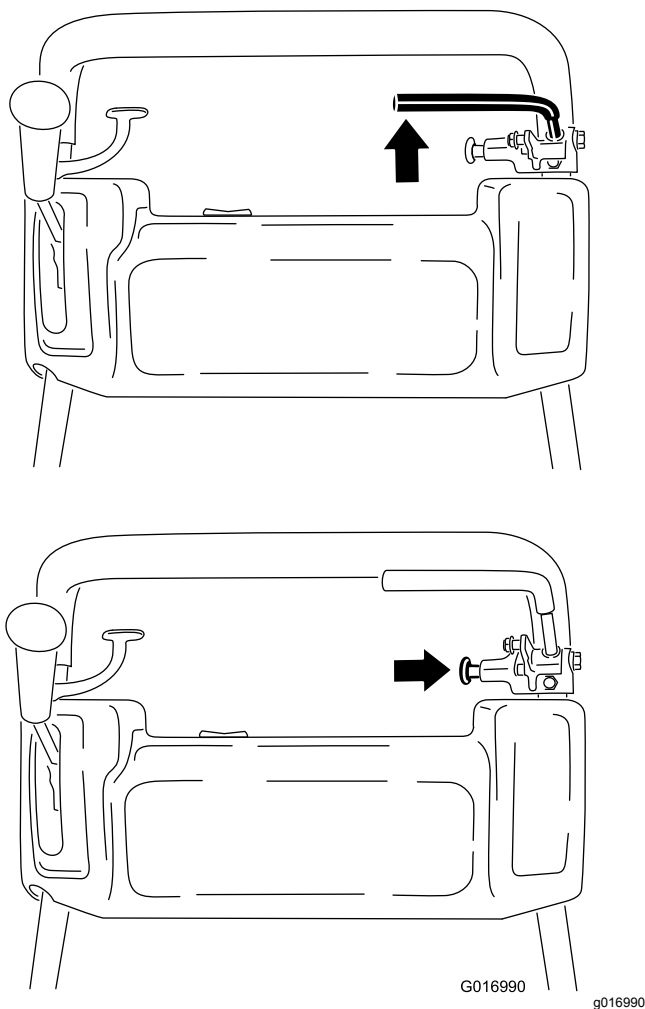

Figure 37
1. Engage the service brake, push in the parking brake knob, and allow the service brake to rest on the parking-brake pin (Figure 37).